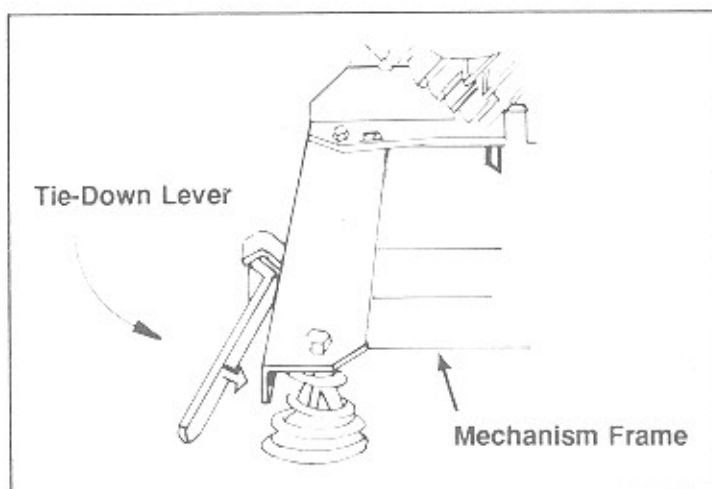

Figure 1-4. CD Changer Tie-Down Levers
2. Remove the shipping tape from the front ends of the mechanism tie-down levers on the side of the mechanism frame (*see to figure 1-4*).